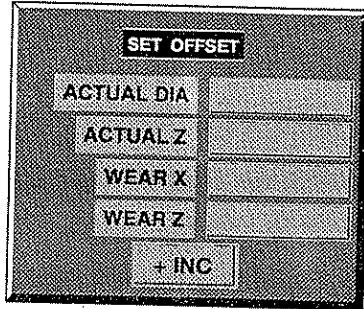

Figure 3-3
- 4) Press the **[+] SET** key. A screen as shown in Figure 3-3 will appear.